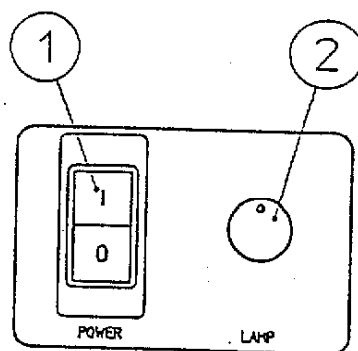

Fig. 1-2 Front Panel
- ⑤ Rewind LED Indicator : This indicator lights when the Arm of the Right Tension Roller is in the REWIND position.
- ⑥ Rewind Rollers : These Rollers are for Rewinding Film.
1.2 Front Panel (Fig. 1-2)
- ① Power Switch : Rocker type switch with lamp. This Switch controls ON / OFF power. Switch lamp lights when ON (I) position.
- ② Illumination Dial : This Dial controls the illumination. Clockwise direction is increase the volume.